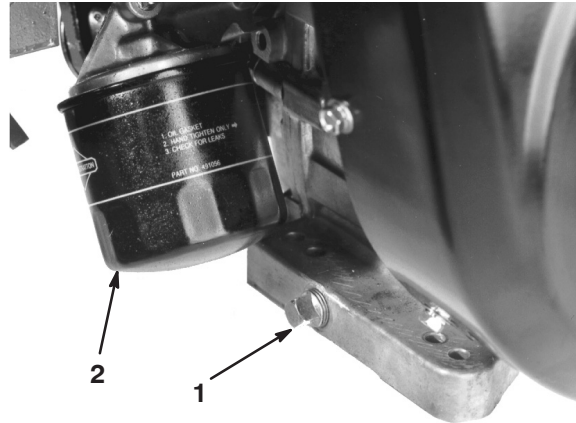

Figure 32
1. Remove the drain plug (Fig. 32) and let oil flow into a drain pan. When the oil stops, install the drain plug.
2. Remove the oil filter (Fig. 32). Apply a light coat of clean oil to the new filter gasket.